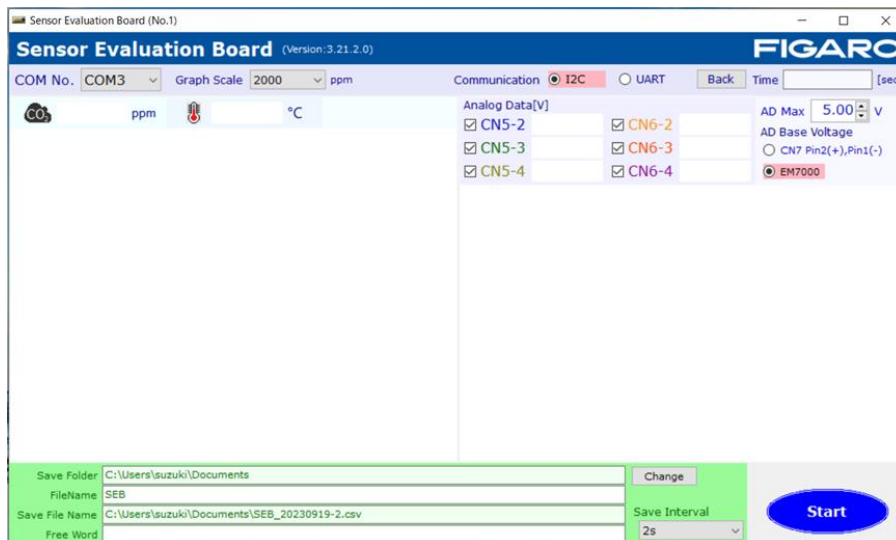

Figure 8 – Startup Screen
- (5) Double-click the icon for the PC application software (ConcMeasure.exe) as installed on the computer to display the startup screen shown in Figure 8.